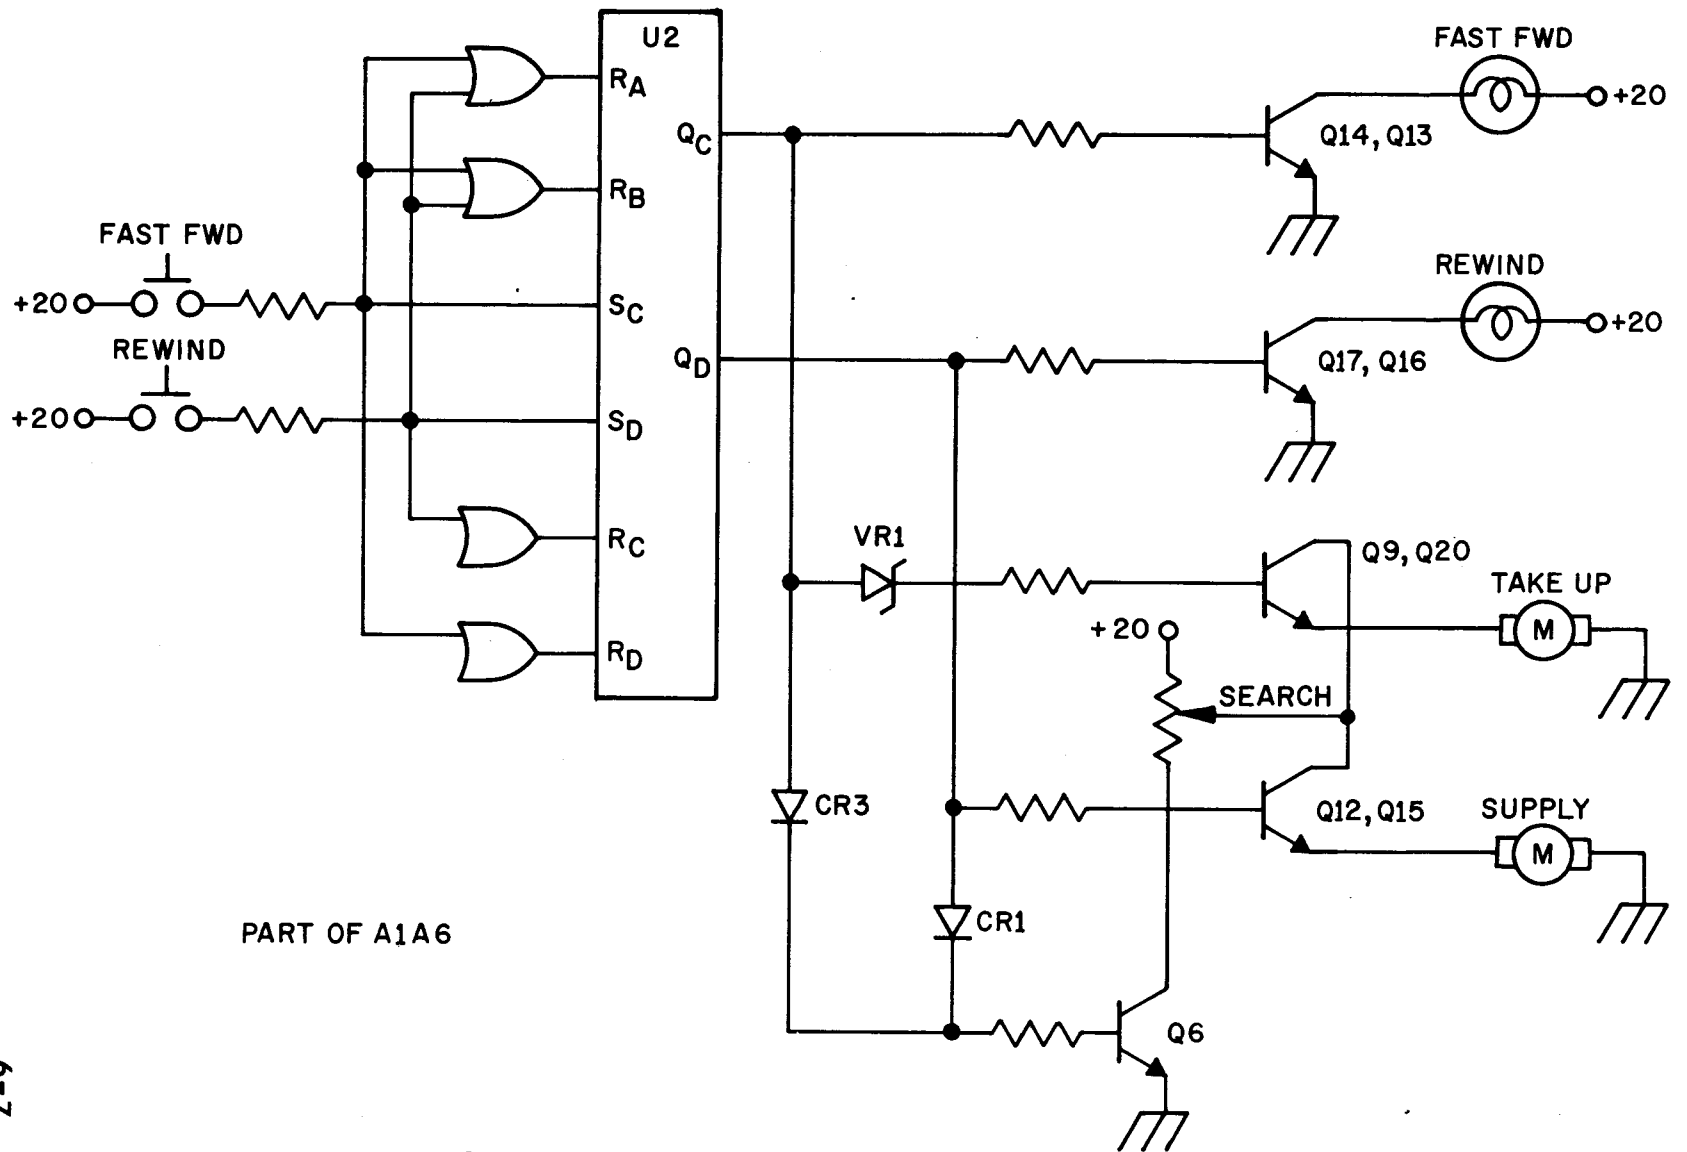

FIGURE 6-5
h. Reel Drive System, Search Mode and Take-up Functions. The reel drive system consists of two motors; the take-up motor (A1A1M1) which drives the upper cassette spool and the supply motor (A1A1M2) which drives the lower cassette spool. The supply motor is energized by the logic card (A1A6) when the REWIND button is pressed. This results in the lower spool rotating clockwise. The take-up motor, also energized by the logic card, rotates the upper spool counter-clockwise when the FAST FWD button is pressed. The heart of the logic card is the integrated circuit U2 (See Figure 6-5.). This device called a Quad Latch has four set-reset flip-flops in a package. It stores the four control commands FAST-FWD, REWIND, REPRO and RECORD. The STOP mode simply resets any or all of these four functions and enables brakes. The FAST FWD switch places a logic high on the SC input of U2, and causes a logic high to appear at QC, the output of U2. QC then enables the FAST-FWD lamp indicator and take-up motor; it disables